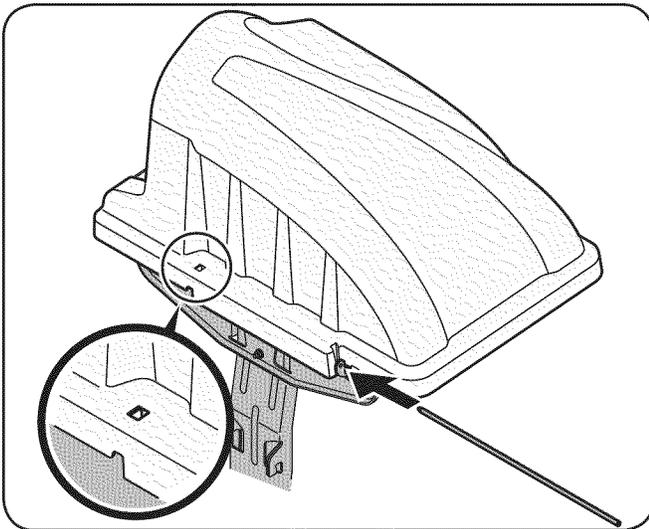
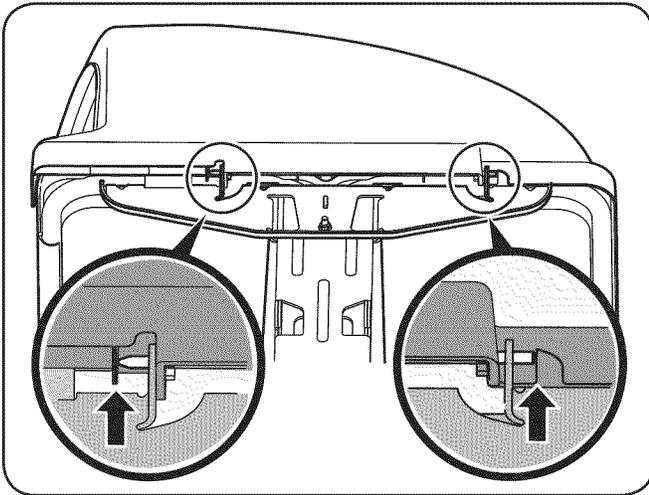

Figure 4-11
Figure 4-12
6. Slide the hinge pin into the hole located on the mounting tab, as in Fig. 4-11. Use the cut-out window (See inset in Fig. 4-11) to line up the hinge pin on the other side and push pin all the way in until it reaches the end-stop. At this point the pin clips into place and is secured by a tab in the bagger cover. See Fig. 4-12.